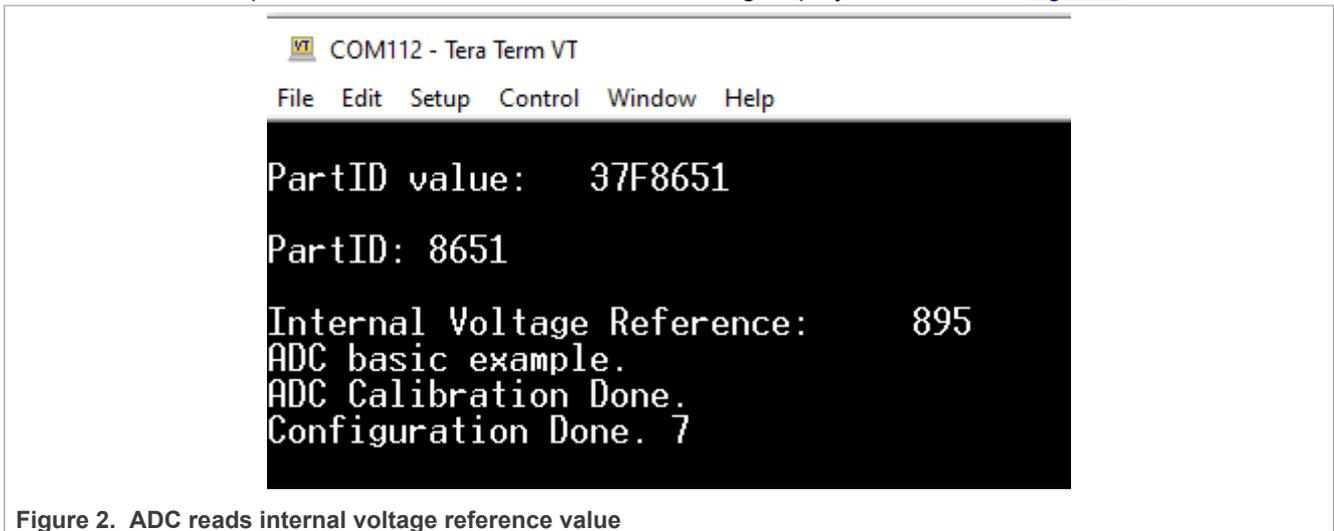

Figure 2. ADC reads internal voltage reference value
4. To run the code, press the RESET button. The welcome log displays, as shown in Figure 2.